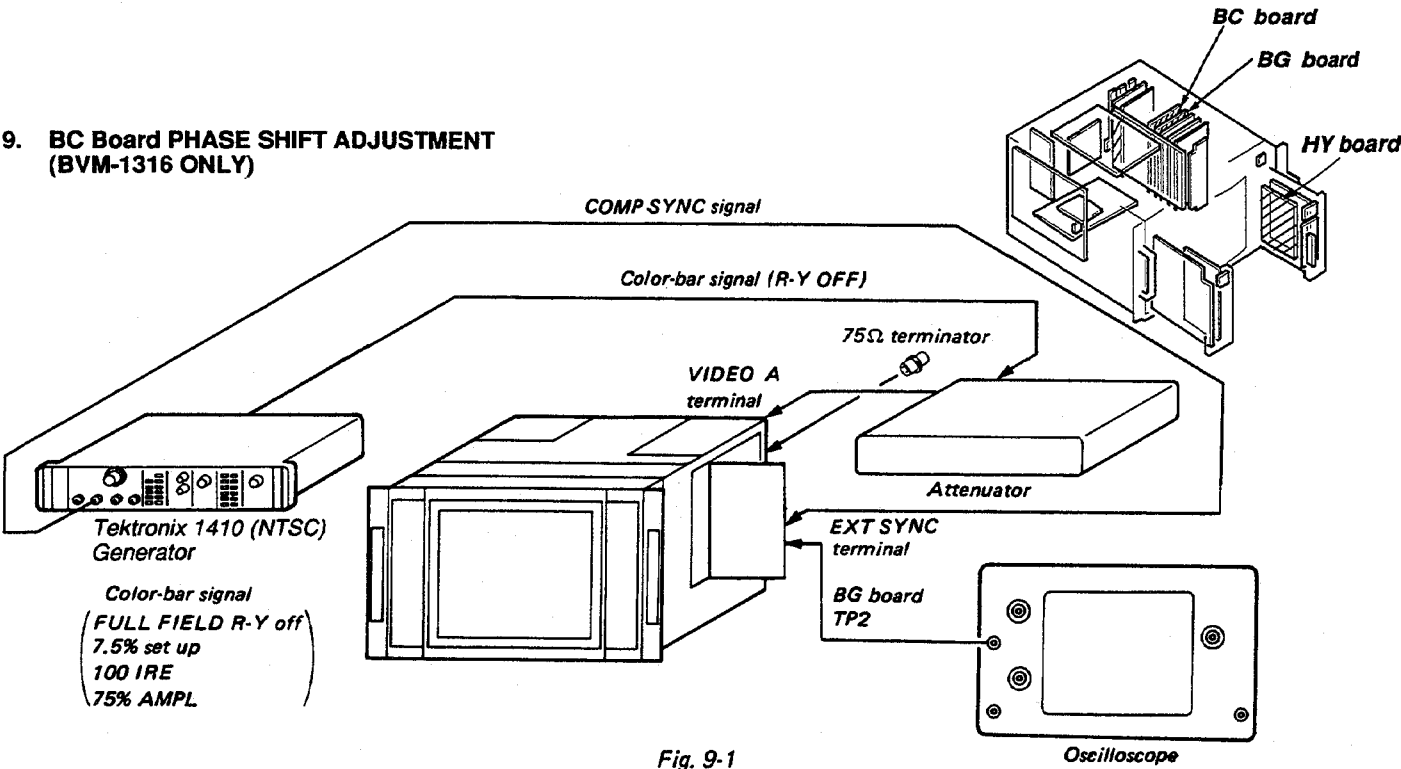

Fig. 9-1
1. Complete the connection as shown in Fig 9-1.